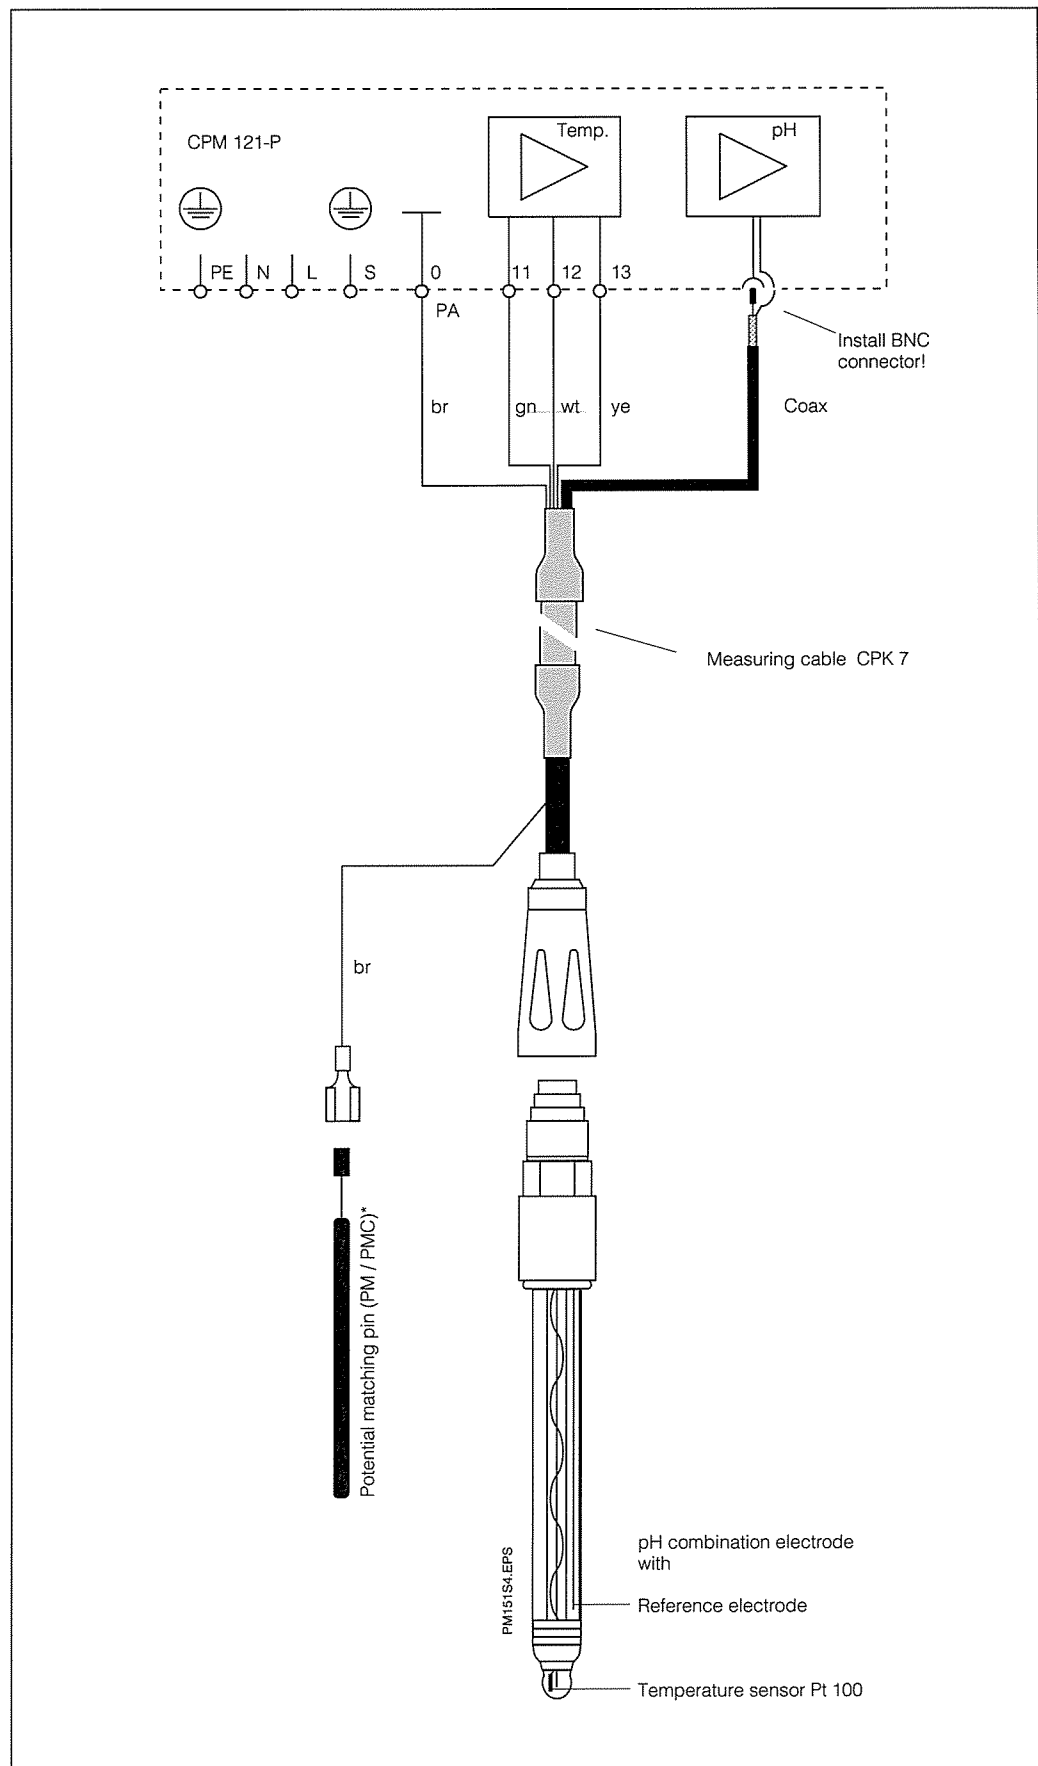

Bild 4.16: pH combination electrode,
- „Symmetrical high-impedance connections“, figs. 4.16, 4.17
The potential matching pin of the assembly must be connected to terminal 0 of the instrument (see figs. 4.16 and 4.17).